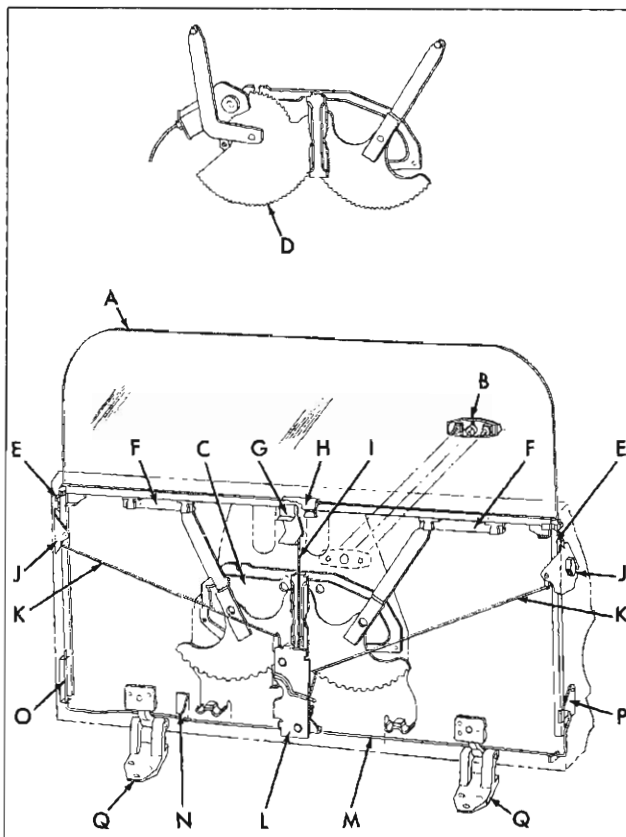

Fig. 80—Tail Gate Assembly Components
When the tail gate is opened the portion of the torque rod inside of the tail gate rotates with the gate while the end of the rod secured to the body pillar remains stationary. This creates an assisting torque to hold the tail gate as the gate approaches and reaches the open position. This torque also assists in closing the tail gate. Figure 80 is a phantom view which identifies and shows the relationship of major component parts of the tail gate assembly.
7. To install tail gate torque rod, reverse removal procedure. Make sure left end of torque rod is properly engaged in both notches of side retainer at left side of tail gate (fig. 80).